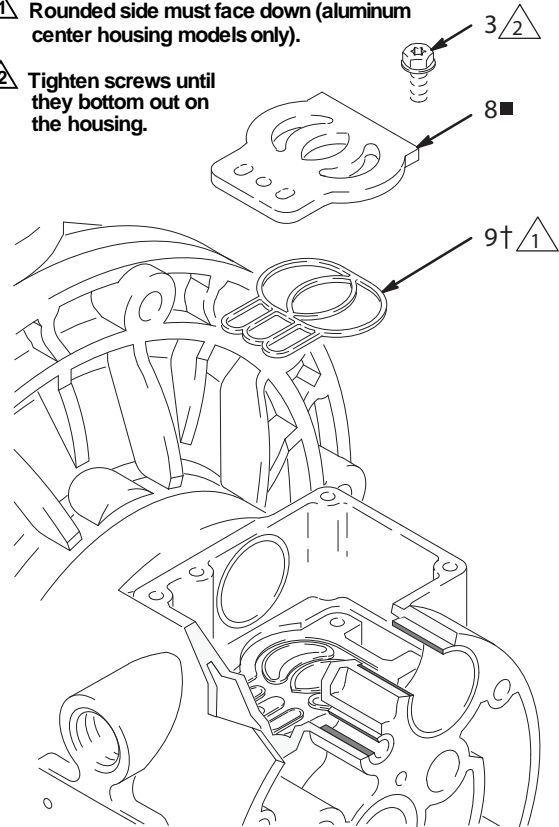

Fig. 10
5. Inspect the valve plate (8) in place. If damaged, use a Torx (T20) screwdriver or 7 mm (9/32 in.) socket wrench to remove the three screws (3). Remove the valve plate (8) and, on aluminum center housing models, remove the seal (9†). See Fig. 10.
2. On aluminum center housing models, install the valve plate seal (9†) into the groove at the bottom of the valve cavity. The rounded side of the seal *must face down* into the groove. See Fig. 10.
3. Install the valve plate (8■) in the cavity. On aluminum center housing models, the plate is reversible, so either side can face up. Install the three screws (3), using a Torx (T20) screwdriver or 7 mm (9/32 in.) socket wrench. Tighten until the screws bottom out on the housing. See Fig. 10.